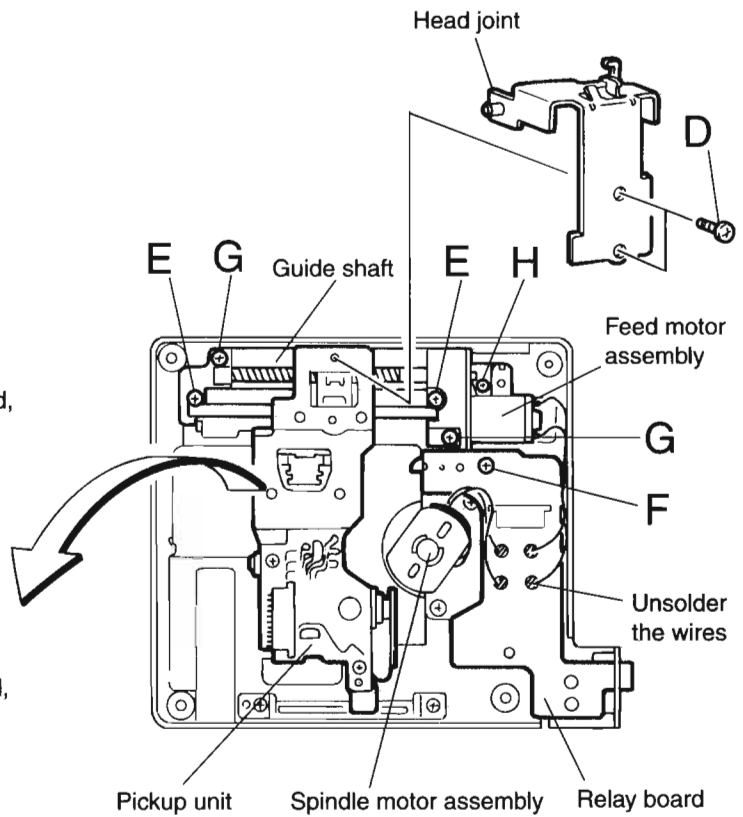

Fig.27
■ Removing the Pickup unit (see Fig.27)
■ Removing the Relay board (see Fig.27)
■ Removing the Feed motor (see Fig.27)